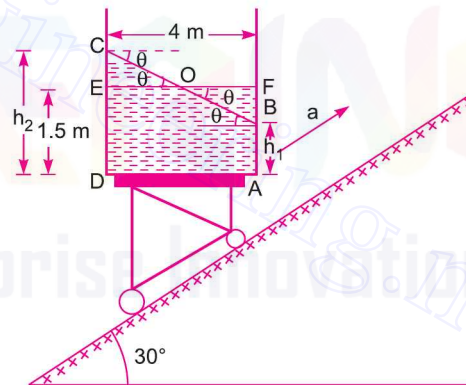

Fig. 3.53
**Problem 3.38** A tank contains water upto a depth of 1.5 m. The length and width of the tank are 4 m and 2 m respectively. The tank is moving up an inclined plane with a constant acceleration of  $4 \text{ m/s}^2$ . The inclination of the plane with the horizontal is  $30^\circ$  as shown in Fig. 3.53. Find,
When the tank is stationary on the inclined plane, free surface of liquid will be along  $EF$  as shown in Fig. 3.53. But when the tank is moving upward along the inclined plane the free surface of liquid will be along  $BC$ . When the tank containing a liquid is moving up an inclined plane with a constant acceleration, the angle made by the free surface of the liquid with the horizontal is given by
From Fig. 3.53, in triangle  $COE$ ,  $\tan \theta = \frac{CE}{EO}$